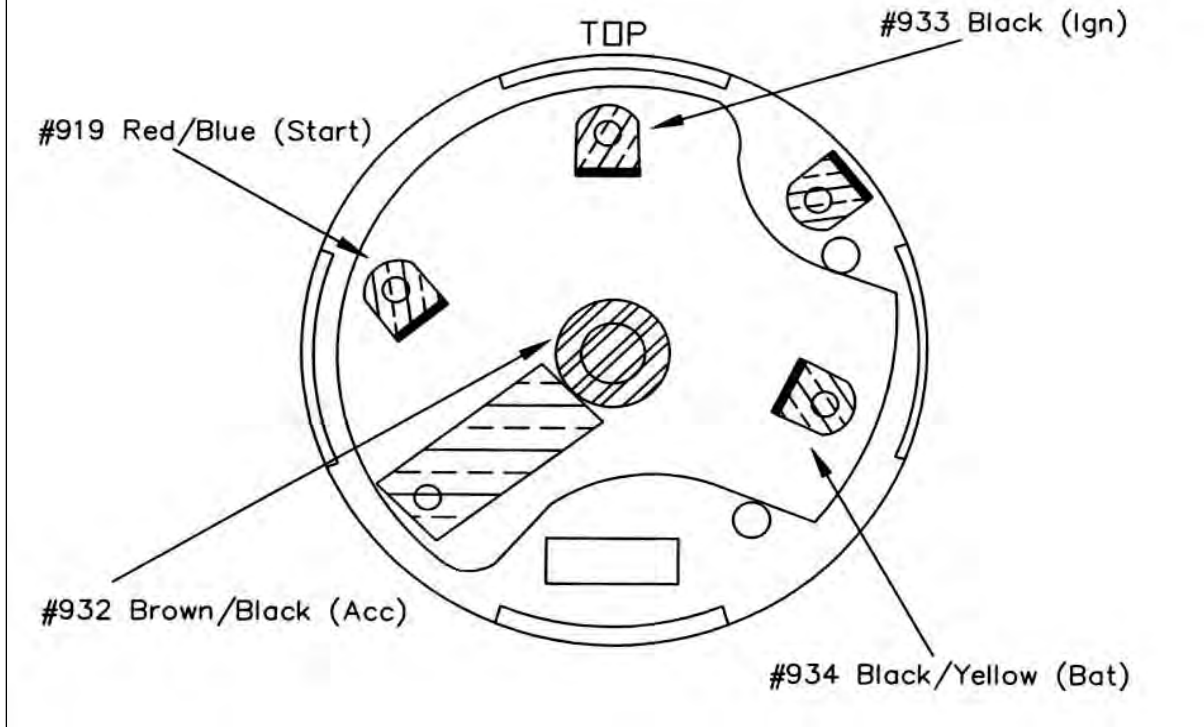

Figure 7-41 1967 Ford Truck Ignition Switch
7.19.1 When installing Painless Wiring Harness Part Number 10117 1967-1977 Ford Truck harness without switches it will be necessary to use Figures 7-41 thru 7-44. Each Figure corresponds with a specific year(s) of Ford Truck. Locate the year of truck being rewired and connect the new harness Ignition Switch wires to the Ignition Switch as indicated. NOTE: ON 1968-70 Ford Truck Ignition switches it will be necessary to reuse the original connector from the original harness. Butt splice terminals have been provided in the parts kit to reuse a small portion of the original wires in the connector and splice it onto the new harnesses wires.